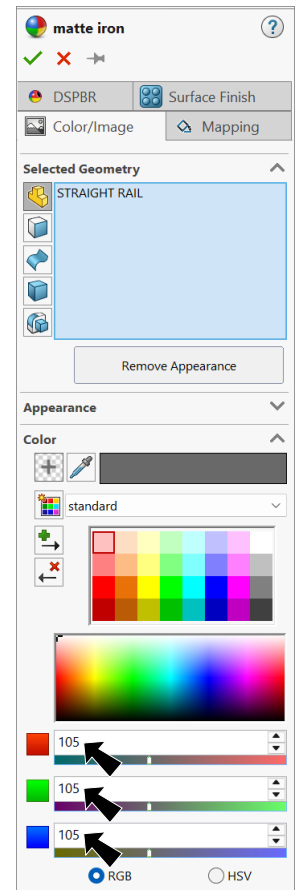

Fig. 46
Step 3. Over in Appearances Property Manager, under Color, Fig. 46